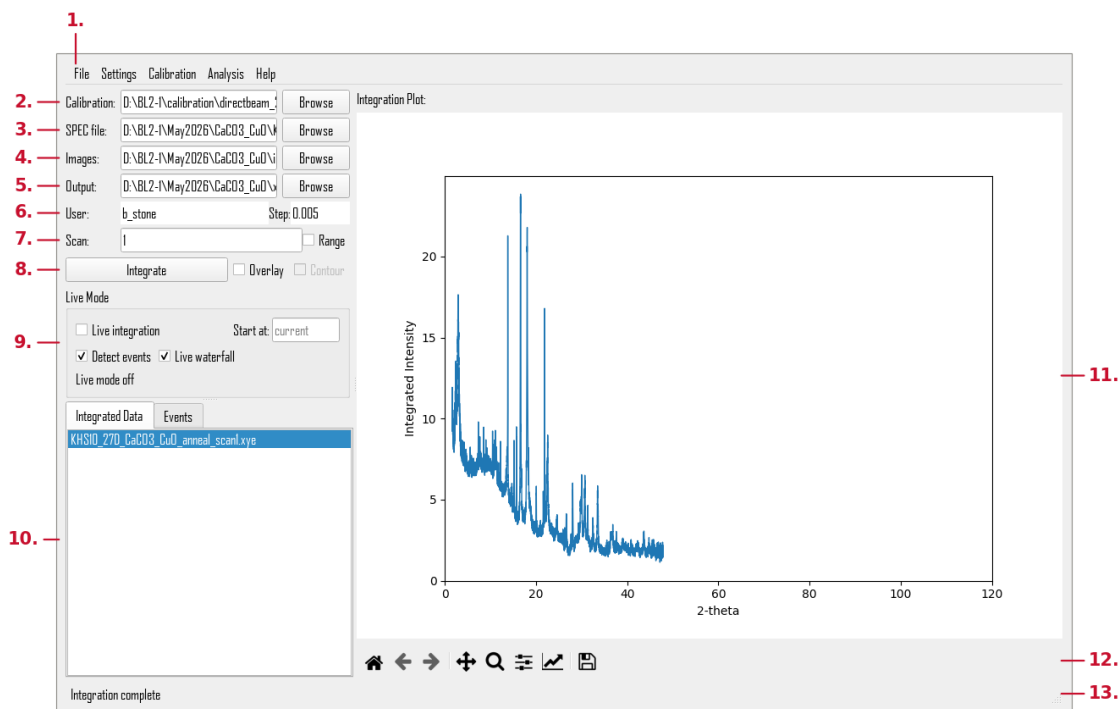

Figure 1. The main window after integrating one scan.
Use the plot toolbar (Figure 1, item 12) to zoom into a region, pan, go back to earlier views, or save the current plot as an image.